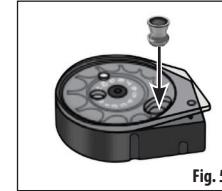

Fig. 5C
4. Place a finger under the magazine covering the hole, place the first pellet in the magazine, nose first (Fig. 5C). Make certain the pellet does not protrude out the back of the magazine. In the event the pellet does protrude, simply push the pellet inward.